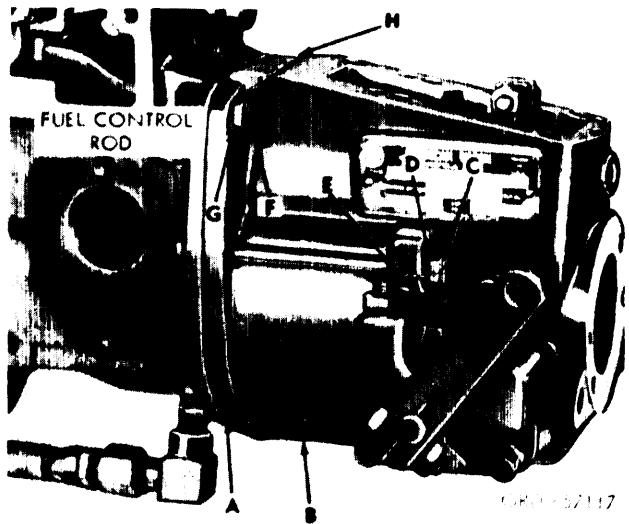
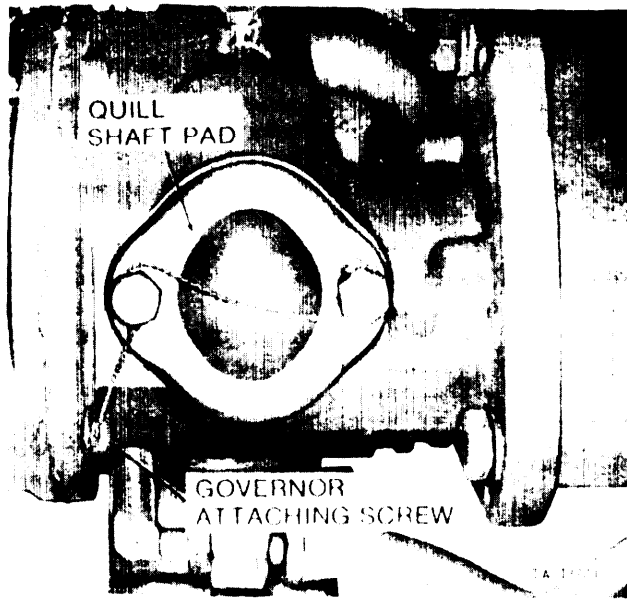

Figure 3-140. Installing governor on injection pump housing.
Figure 3-141. Securing quill shaft cover screws and bottom governor attaching screw.
b. Install Governor and Associated Parts. Refer to figure 3-140. Coat both sides of governor housing gasket with a suitable sealer MIL-S-45180. Install governor housing gasket (A). Guide fuel control rod through timing window and install governor (B) on injection pump housing with sliding sleeve engaging weight and spider assembly. Install two machine screws (C) and lockwashers (D). Install three machine screws (F) and lockwashers (G). Torque tighten screws to 50-80 inch-pounds and secure with locking wire (H). Lock wire bottom screw to quill shaft cover attaching screws. See figure 3-141.
In order to select proper governor inner and outer spacers, the idle screw must be backed out flush with the bottom of the operating bearing flange, allowing the governor sliding sleeve to move inward to the extreme point of travel. Operating lever must be in idle position as shown in figure 3-140.